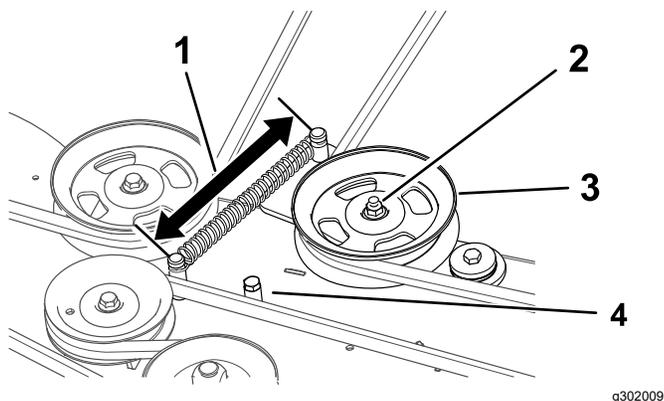

Figure 54
If the length of the spring is less than 15.2 cm (6 inches) or if the idler pulley arm contacts the idler stop shown in Figure 54, adjust the idler pulley arm.
4. Loosen the nut on the idler pulley (Figure 54).
6. Tighten the nut (Figure 54).